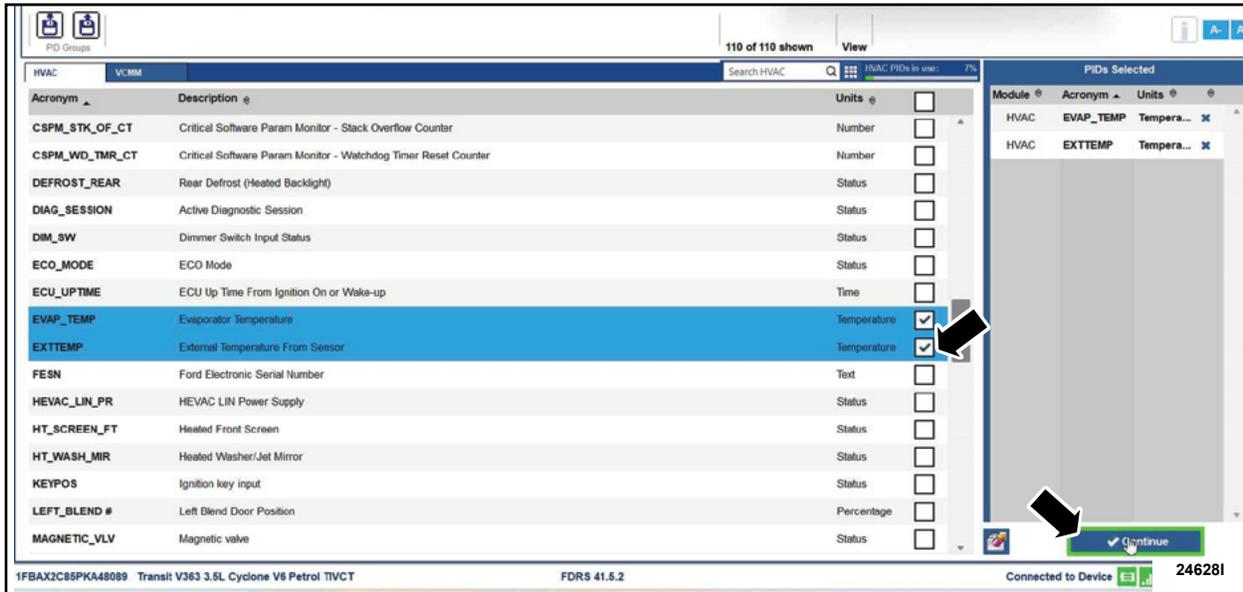

FIGURE 11
21. Scroll down, locate and select **EXTTEMP** and then **CONTINUE**. See Figure 11.